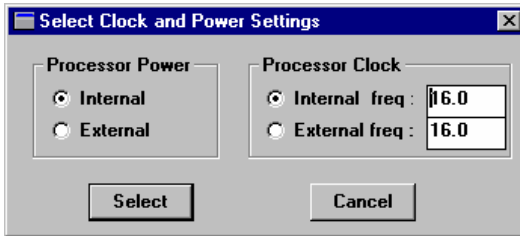

FIGURE 7 Controlling the Clock and Power Settings.
10. The Select Clock and Power Settings dialog box appears (Figure 7). A deviation from its settings shown in the figure would indicate that the POD has not yet been connected to the user target board. If this is the case, manually modify the settings to match those in the illustration.